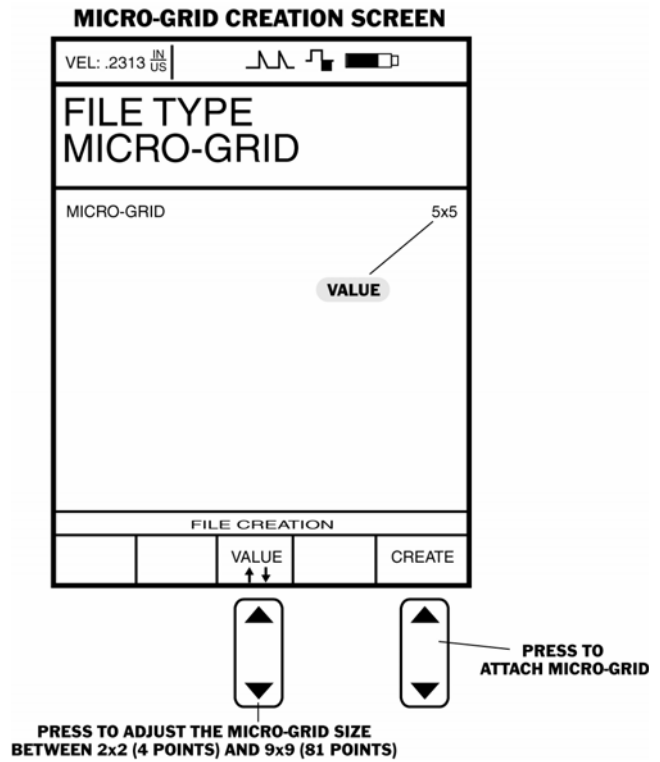

FIGURE 4-7—This is a Micro-Grid creation screen.
Step 2: As shown in Figure 4-7, Micro-Grid will appear on the display screen, next to a value representing the grid's size. Note that all Micro-Grids must be symmetrical; that is, they must have the same number of rows and columns. Micro-Grids can be created in sizes ranging from 2×2 to 9×9 .
Step 3: Set the size of the Micro-Grid by pressing  below the selection VALUE. Note that a 3×3 grid, for instance, contains nine (9) data points.